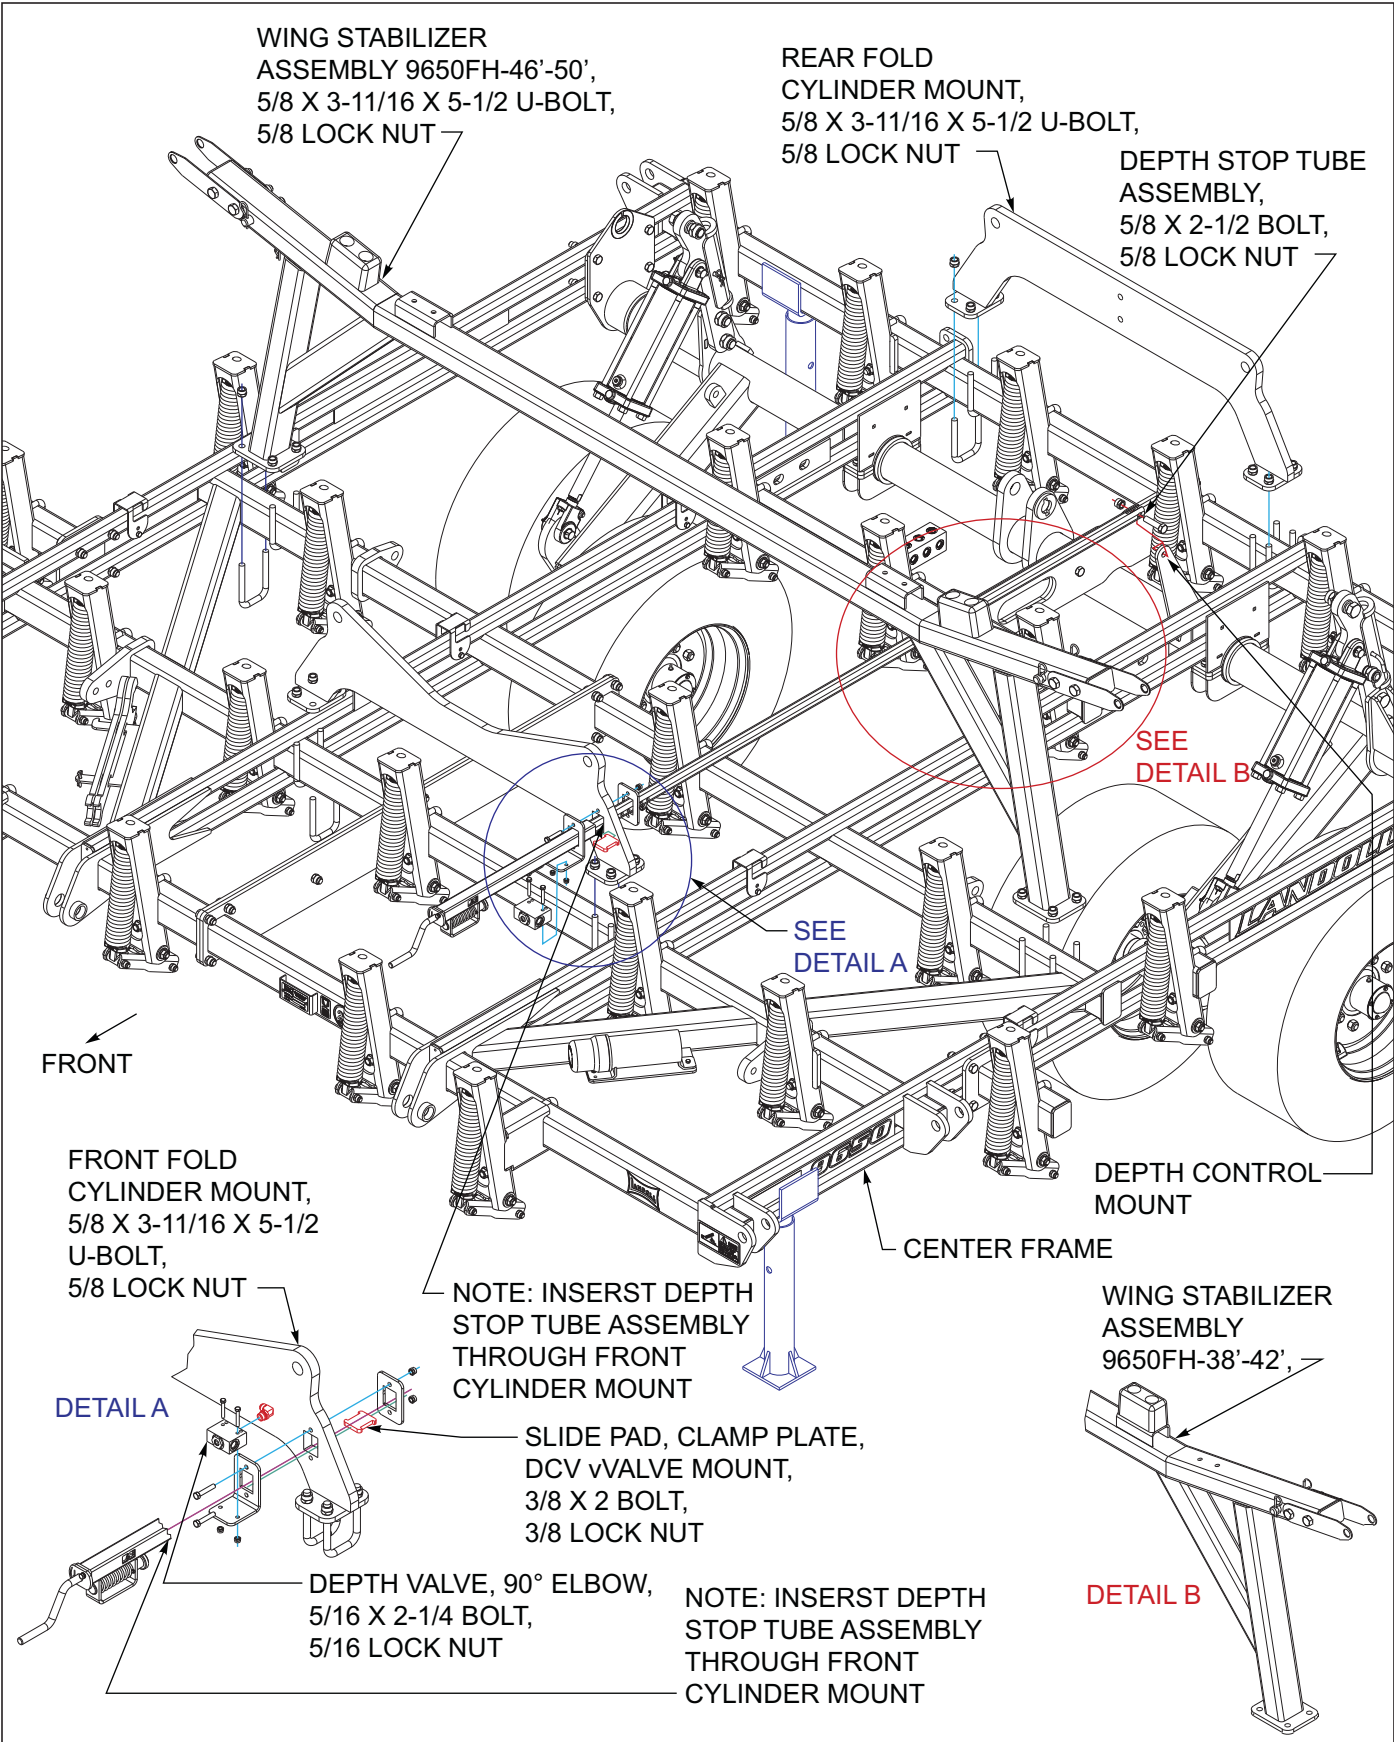

Figure 3-2: Center Frame Fold & Depth Control Assembly
1. Attach the front & rear fold cylinder mounts to the top of the center frame using 5/8 x 3-11/16 x 5-1/2 u-bolts and lock nuts *See Figures 3-2*. The rectangular hole in the front cylinder mount will be mounted to the left side of the center frame.
Location of rubber mount for models 9650FH-38'-42' and 9650FH-46'-50' *See Figures 3-2, Detail B.*